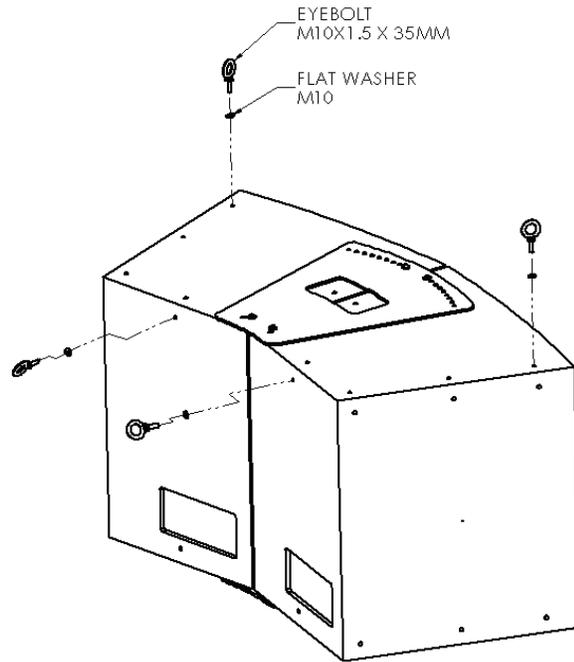

Figure 3
Step 3: Carefully flip the two speakers together so that the top is facing up. Removed the screws in the holes where the joiner plates are installed. Install the joiner plates using the same holes as the bottom joiner plates using the provided screw, split washer and flat washer (Figure 3).
Step 4: Install the M10 x 35mm long eyebolts with flat washers on the outer front holes of the side speaker (Figure 3).
Step 5: Install the M10 x 35mm long eyebolt on the top rear of the speaker then bridle to a single pull back cable (Figure 3). For dual pullback point attach a pullback cable on each rear eyebolts.